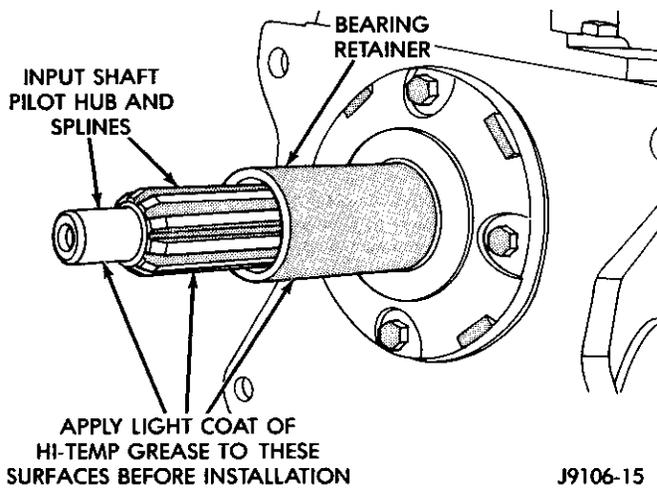
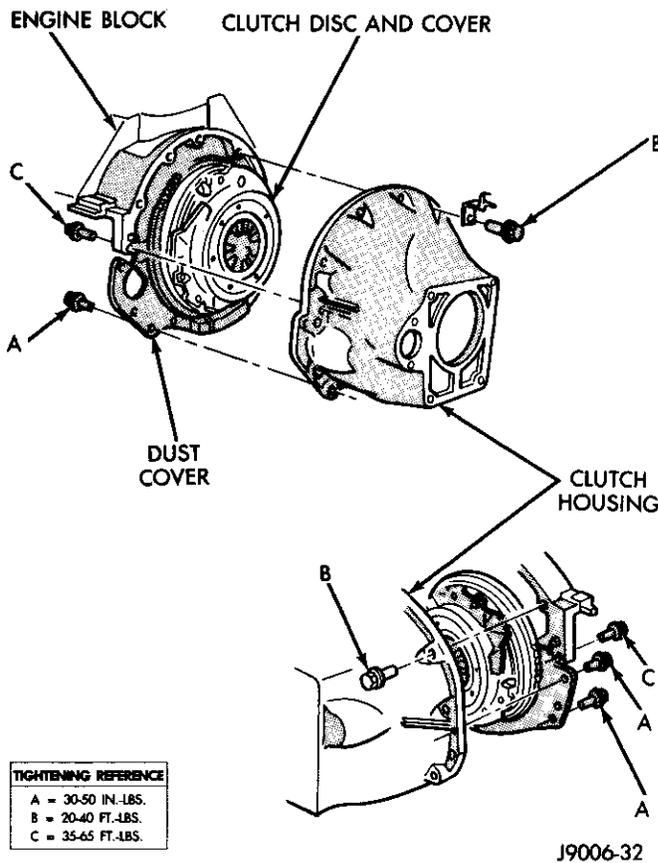

Fig. 7 Input Shaft Lubrication Points (Typical)
Fig. 8 Clutch Housing Installation—Gas Engine
(10) Apply light coat of Mopar high temperature bearing grease to splines of transmission input shaft and to release bearing slide surface of transmission front bearing retainer (Fig. 7). **Do not overlubricate shaft splines. Grease contamination of disc will result.**
(11) Install release lever and bearing in clutch housing.
(12) Install clutch housing (Figs. 8 and 9). Be sure housing is properly seated on alignment dowels before tightening housing bolts.
(13) Install transmission/transfer case.
(14) Check fluid level in clutch master cylinder.
(1) Raise vehicle and remove transmission and transfer case if equipped.
(2) Remove clutch housing bolts and remove housing from engine (Figs. 8 and 9).
(3) Clean housing mounting surface of engine block with wax and grease remover.
(2) Align and install clutch housing on transmission. Tighten housing bolts closest to alignment dowels first and to torque values indicated (Figs. 8 and 9).
(3) Install transmission-to-engine strut after installing clutch housing. Tighten bolt attaching strut to clutch housing first and engine bolt last.
(4) Install transmission and transfer case if equipped. Refer to procedure in Group 21.